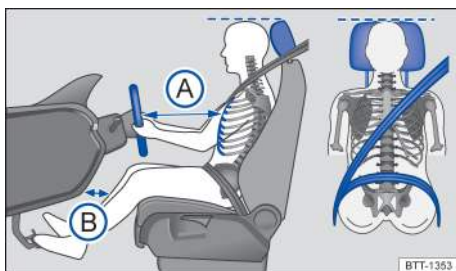

Fig. 21 Proper safety belt positioning and head restraint adjustment. The driver should never sit closer than 10 inches (25 cm) from the steering wheel.
- Adjust head restraints so that the upper edge of the head restraint is at least at eye level or higher. Position the back of your head as close as possible to the head restraint → fig. 21 (dotted line).
- Adjust the steering wheel so that there are at least 10 inches (25 cm) between the steering wheel and your breast bone → fig. 21 \(A\), → page 103, Steering wheel. When adjusting the proper distance to the steering wheel, grasp the top of the steering wheel with your elbows slightly bent.
keeping your knee(s) slightly bent. The distance to the instrument panel in the knee area must be at least 4 inches (10 cm) → fig. 21 B.